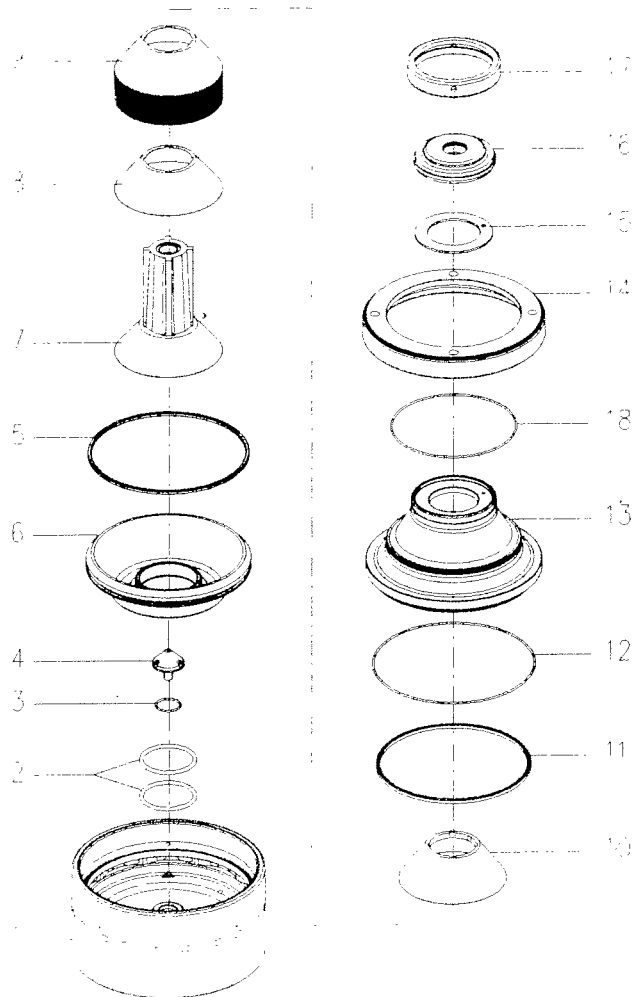

Figure 6.1
The bowl is supplied separately from the rest of the machine, so before setting at work it must be dismantled and assembled on vertical shaft in the frame. The bowl, rotating at high speed, is subjected at high stress that could compromise the operating safety of separator in case the bowl has been improperly assembled and cleaned. In *Figure 6.1* are shown all the main pieces of the bowl.
- Every part must be correctly positioned; almost all bowl parts have an angular position fixed by pins or feather keys - except for threaded parts and gaskets (Figure 6.1 - parts 2, 3, 4, 5, 11, 12, 14, 17, 18).
- 2) Carefully clean the grooves of bowl hub and insert the **OR gaskets** (Fig. 6.1 - part 2).
- 3) Insert the OR gasket (Fig. 6.1 part 4) on **bowl body nut** and then, by the spanner (09.185.0) fasten the piece that has left handed thread (Fig. 6.4). By the hammer (09.030.0) give some blows to the spanner to be sure that the nut is well fixed.
- the bottom disk (Fig. 6.1 - part 8) that distinguishes itself by having spacers on both surfaces;
- the intermediate disks (Fig. 6.1 - 9);
- the upper disk (Fig. 6.1 - 10) having higher thickness.